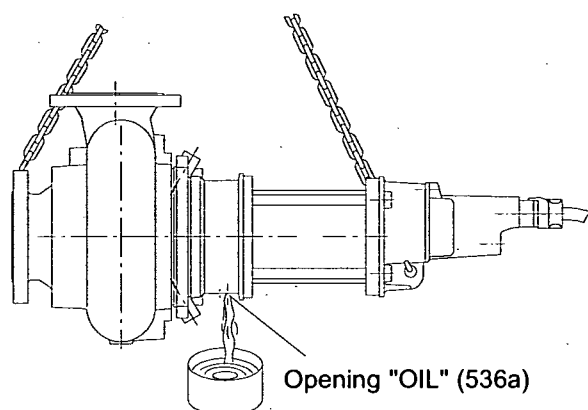

Fig. 12
Remove screw plug "OIL" (536a) and drain oil chamber casing (504) completely, by turning the pump around slowly until opening "OIL" is upside down (Fig. 12). On larger motor sizes there may be another screw plug directly below the opening "OIL" on the back cover (507). Removing this screw plug will help remove the last bit of oil.